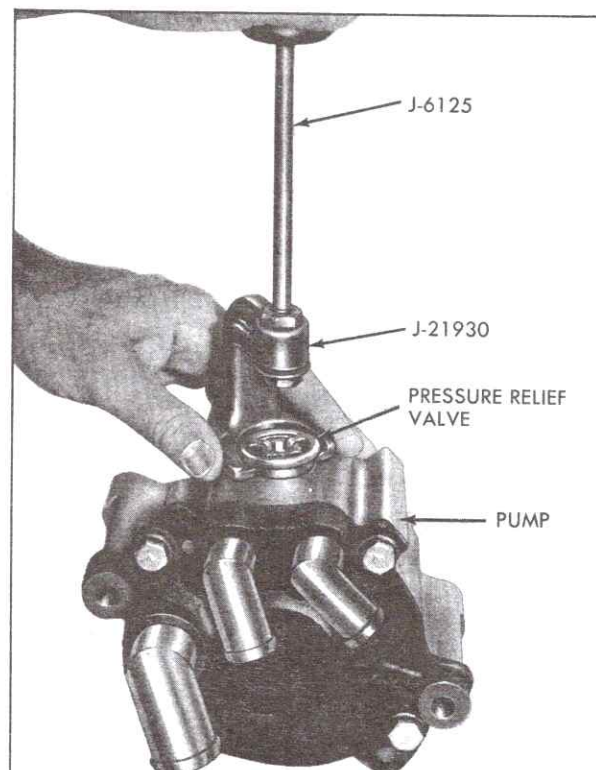

Fig. 6-161 Removing Pressure Relief Valve
1. Insert Tie Rod End Puller (less bolt), J-21930, under flange of valve. Install Slide Hammer, J-6125, on puller. Drive hammer until valve is free, Fig. 6-161.